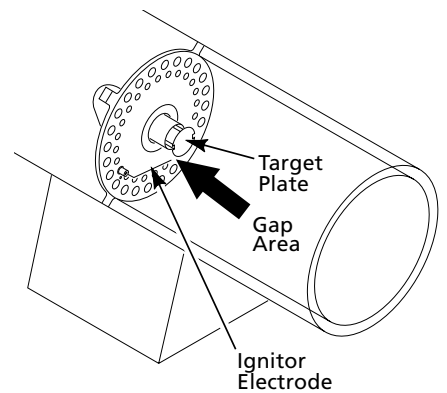

Figure 16 - Clearance Between Ignitor Electrode and Target Plate
- Set gap between ignitor electrode and target plate to .17" (See Figure 16).